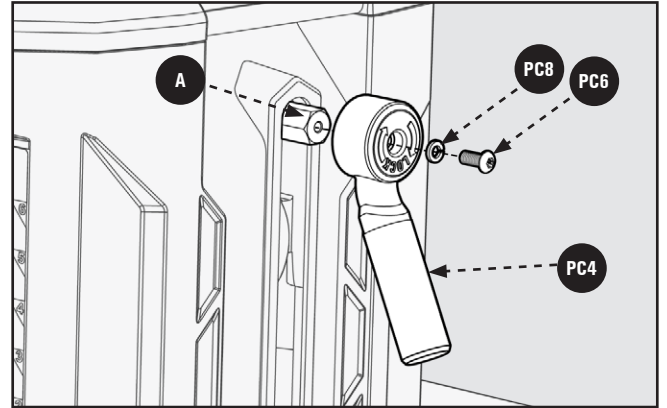

FIGURE 3
1. Use the supplied T-handle Torx wrench **PC5** to attach the cutterhead lock handle **PC4** Figure 3 to the shaft **A** with the **PC6** M6 x 20mm Torx Head Screw and **PC8** M6 Split Lock Washer.